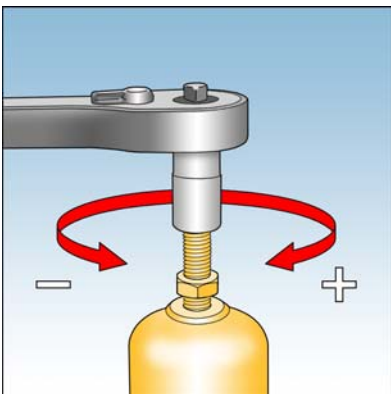

Fig. 3
3. Connect suitable spanner (15mm A/F) to hexagon of spring adjusting stem. See Fig. 3.